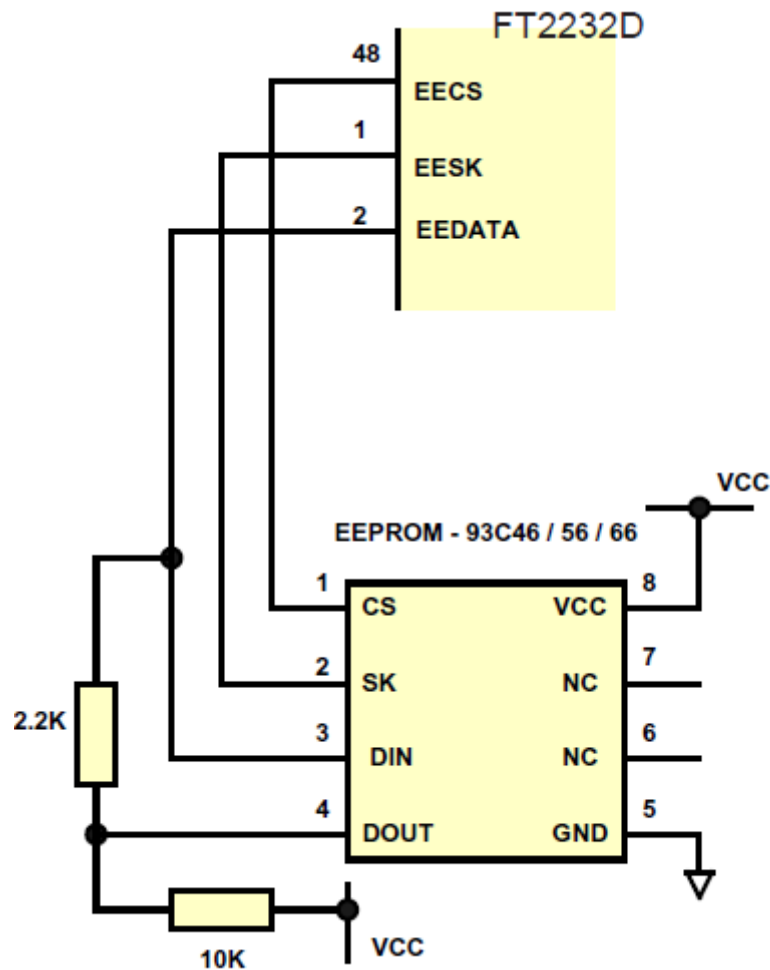

Figure 7.3 EEPROM Configuration
Figure 7.3 illustrates how to connect the FT2232D to the 93C46 (93C56 or 93C66) EEPROM. EECS (pin 48) is directly connected to the chip select (CS) pin of the EEPROM. EESK (pin 1) is directly connected to the clock (SK) pin of the EEPROM. EEDATA (pin 2) is directly connected to the Data In (Din) pin of the EEPROM. There is a potential condition whereby both the Data Output (Dout) of the EEPROM can drive out at the same time as the EEDATA pin of the FT2232D. To prevent potential data clash in this situation, the Dout of the EEPROM is connected to EEDATA of the FT2232D via a 2.2K resistor.